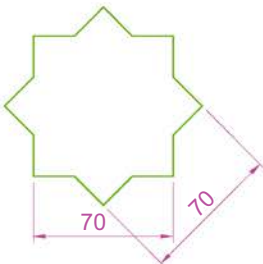

Fig. 11.10 Example – 3D Array – the star pline
1. Construct the star-shaped pline on a layer colour green (Fig. 11.10) and extrude it to a height of 20.